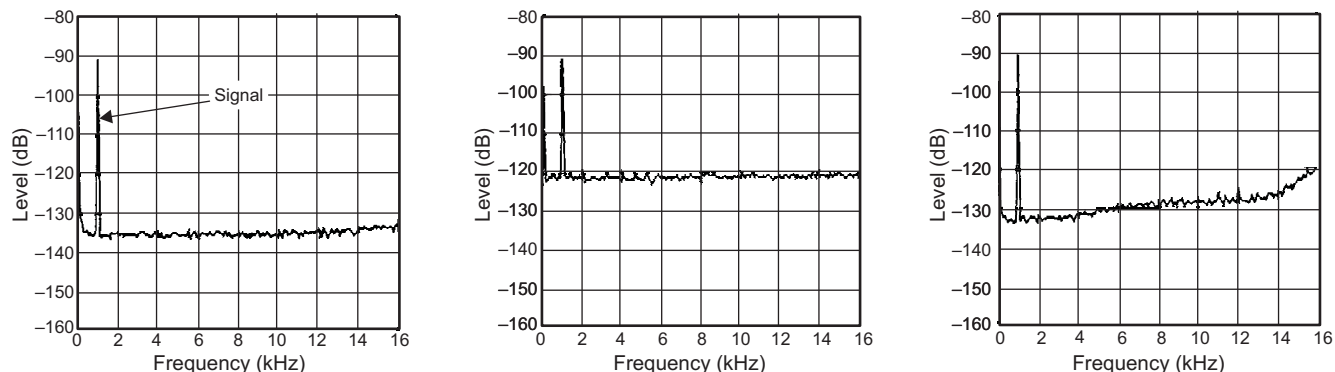

Figure 6. LDO Noise Aliasing
- Consider a system in which LDO is powering an ADC or DAC. Any sampled system causes the high frequency noise to fold to lower frequencies due to aliasing. For example, if the sampling frequency is 100kHz and the noise due to LDO is at 90kHz and 110kHz, 190kHz and 210kHz, etc., then all the noise will fold back to 10kHz which is the beat frequency. This will occur for any frequency of the output noise so that all of the LDO noise folds back to within the bandwidth of the sampling system. This is same as integrating all the noise from DC to bandwidth of the system and computing the total noise. This way, the performance of ADC/DAC suffers if the LDO total (integrated) noise is high. Figure 6 below shows how LDO noise aliasing takes place. First graph is for a system powered by ideal LDO, second is for a system powered by LDO with thermal noise that increases noise floor and third is for a system powered by LDO with noise at high frequency that aliases to lower frequency.